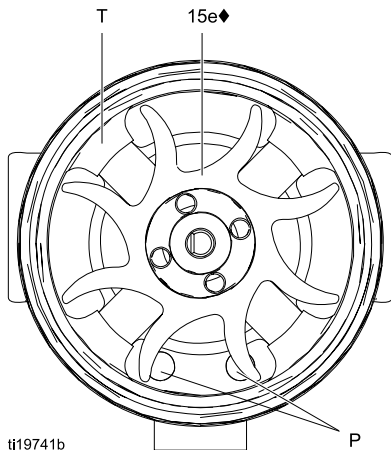

Figure 34 Fan Orientation
7. Hold the coil assembly (15a) on a workbench with the fan end facing up. Using a wide blade screwdriver, pry the fan (15e) off the shaft (S).
10. Install the new bottom bearing (15b1◆) on the long end of the shaft (S). The flatter side of the bearing must face away from the magnet (M). Install in the coil (15a) so the bearing blades are flush with the surface of the coil.
12. Hold the coil assembly (15a) on a workbench with the fan end facing up. Press the fan (15e♦) onto the long end of the shaft (S). The fan blades must be oriented as shown.
13. Carefully press the coil assembly (15a) into the front of the housing (15d♦). The 3-wire connector (PC) must be positioned below the wider notch (W) of the housing tabs, as shown in Fig. 35. Be sure the coil alignment pins (P) are positioned as shown in Fig. 34.
14. Rotate the fan (15e) so its blades clear the four bearing tabs (T) at the back of the housing.